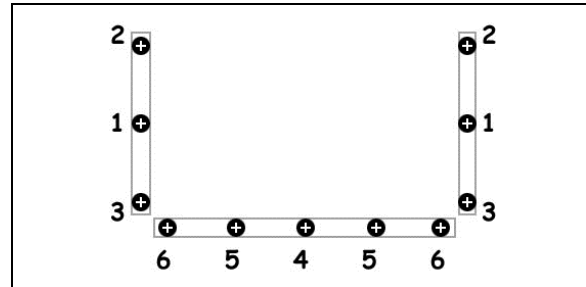

FIGURE 79 : CORRECT TIGHTENING SEQUENCE
6. While a helper is pressing on the window from outside, install the sliding window clamping frame and tighten screws according to the sequence shown in FIGURE 79;